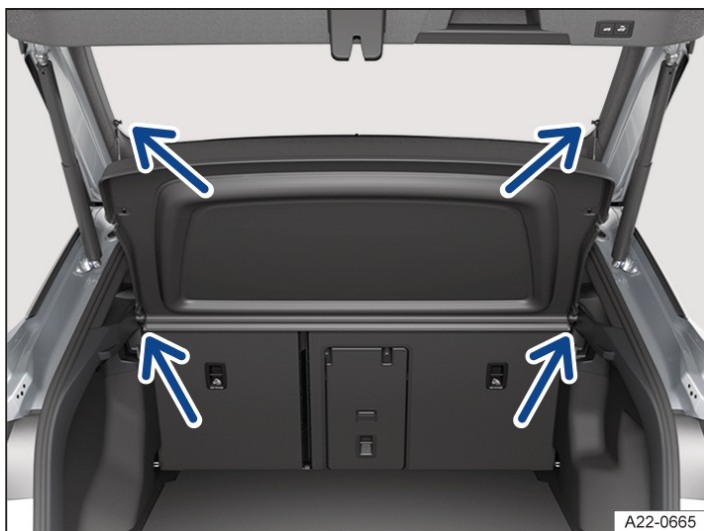

Fig. 1 In the luggage compartment: removing and installing the luggage compartment cover (illustration).
1. Unhook the retaining straps at the top on the boot lid → *Fig. 1* (upper arrows).
2. Push the luggage compartment cover out of the side holders from below → *Fig. 1* (lower arrows).